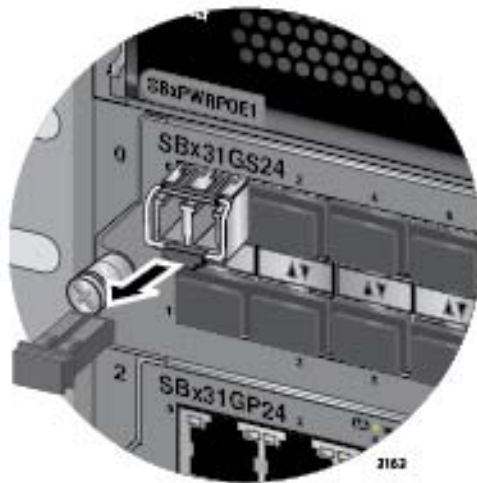

Figure 87. Removing the Dust Cover from the SFP Transceiver in the AT-SBx31GS24 Line Card
- Remove the protective cover from the SFP transceiver, as shown in Figure 87.